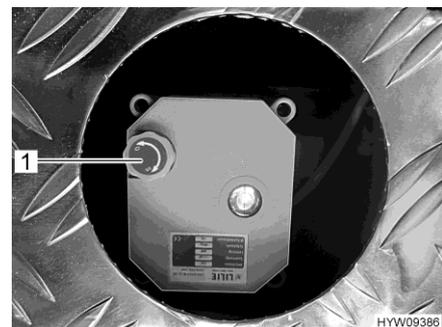

Fig. 135 Handwheel (waste water valve)
- To open the waste water valve, pull handwheel (Fig. 135,1) upwards and turn in an anticlockwise direction as far as it will go. The direction of rotation (O for opening, S for closing) is marked on the handwheel.
- To close the waste water valve, pull handwheel (Fig. 135,1) upwards and turn in a clockwise direction as far as it will go.